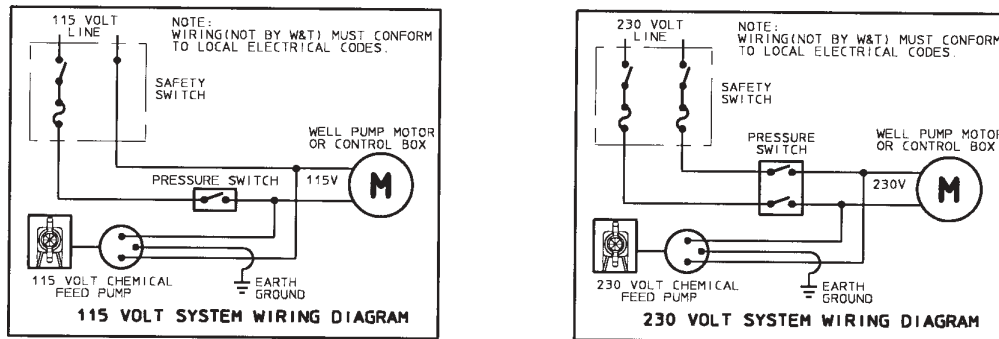

Figure 2.7
- Ensure that the metering pump voltage matches the voltage of the well pump. Typical well pump electrical circuits are shown in Figure 2.7. All electric wiring should be installed by a licensed electrician in accordance with local electrical codes.